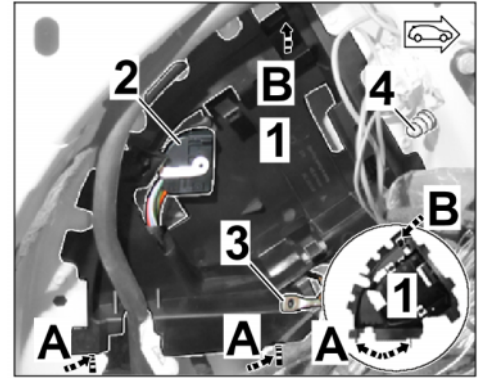

Figure 10
2.4.2 Insert pins (2 x on underside of control unit bracket) into the body (⇒ *Figure 10-A* -)
2.4.3 Clip trailer hitch control unit bracket at the top into the web plate on the body (⇒ *Figure 10-B* -).